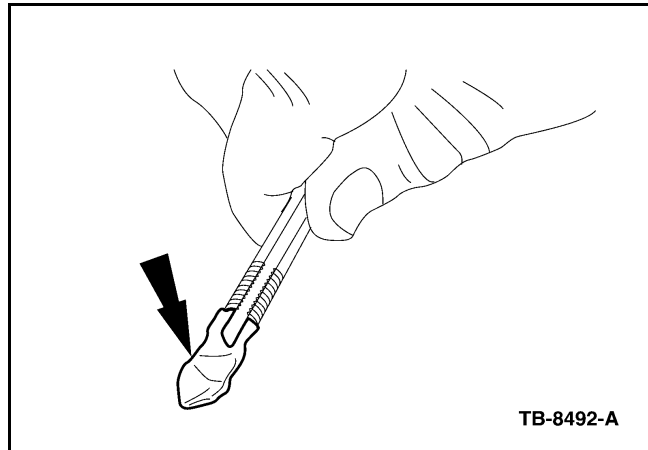

Figure 8 - Article 08-7-6
- a. Coat the end of the tap with general purpose grease. (Figure 8)